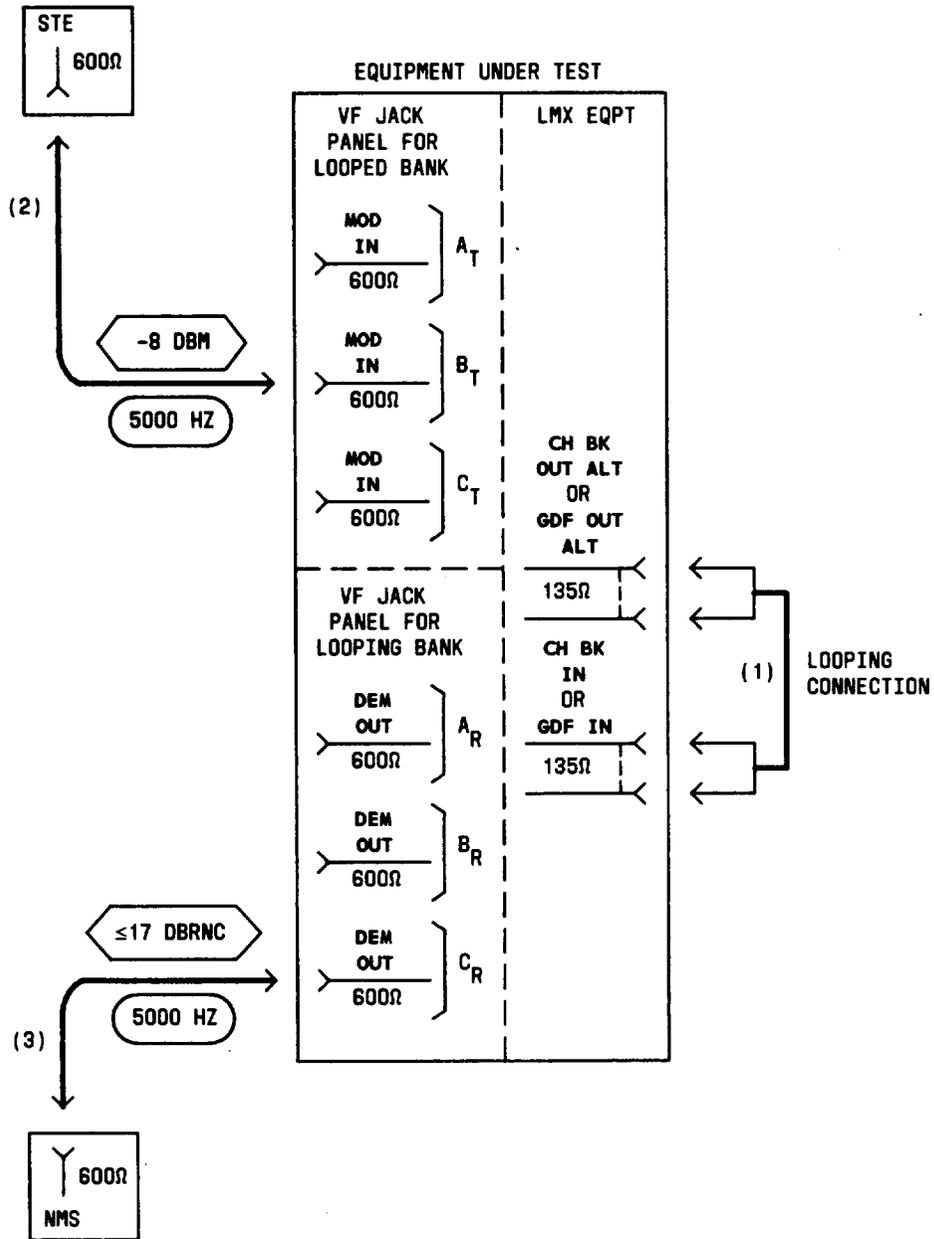

Fig. 25—Patching Diagram—Crosstalk Test—Unequal-Level Looping—Upper Adjacent Channel (5000 Hz)
- 26 Connect the STE to the MOD IN jack for Test A in *looped*-bank Channel Br [Table L and patch (2), Fig. 25].
- 27 Connect the NMS to the DEM OUT jack for Test A in **looping**-bank Channel  $C_R$  [Table L and patch (3), Fig. 25].
31	Remove patches (2) and (3), Fig. 25.
33	At the LMX equipment, remove patch (1), Fig. 25.  Note: If the channel bank under test is equipped for CFA, reinsert the CFA unit.